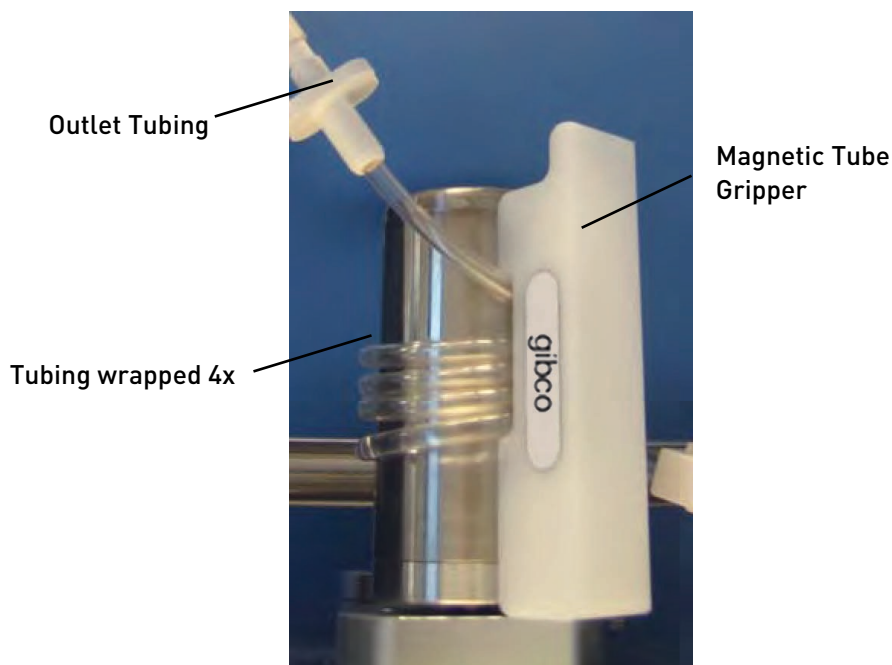

Figure 10 Tubing wrapped four times around the Secondary Magnet
2. Wrap the outlet tubing for the fluid downstream of the Primary Magnet around the Secondary Magnet four times (Figure 10).
Use a roller clamp to regulate the flow rate from the primary bag, or include a peristaltic pump to the system. Use a minimum length of 50 cm for Tube C as this shall be wrapped around the Secondary Magnet as described (Figure 10, page 10).
8. Detach the Secondary Magnet from its base. Wrap the outlet tubing around the pillar (See Figure 10, page 10) and add the Magnetic Tube Gripper to hold the tubing in place. Re-attach the secondary magnet to its base.